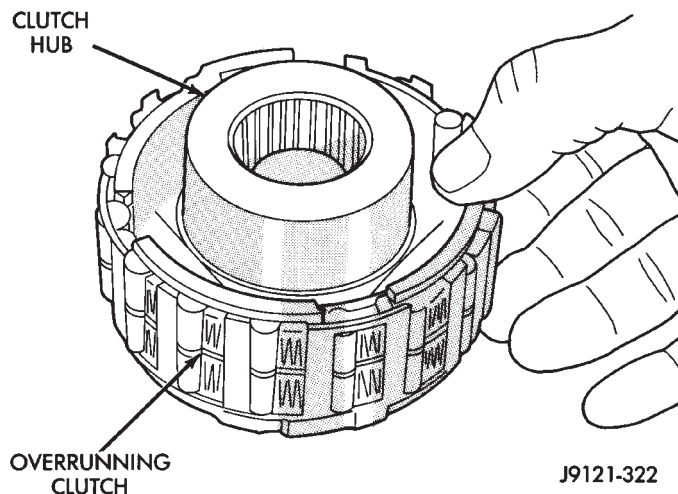

Fig. 224 Assembling Overrunning Clutch And Hub
(8) Install overrunning clutch on hub (Fig. 224). **Note that clutch only fits one way. Shoulder on clutch should seat in small recess at edge of hub.**
(9) Install thrust bearing on overrunning clutch hub. Use generous amount of petroleum jelly to hold bearing in place for installation. **Bearing fits one way only. Be sure bearing is seated squarely against hub. Reinstall bearing if it does not seat squarely.**